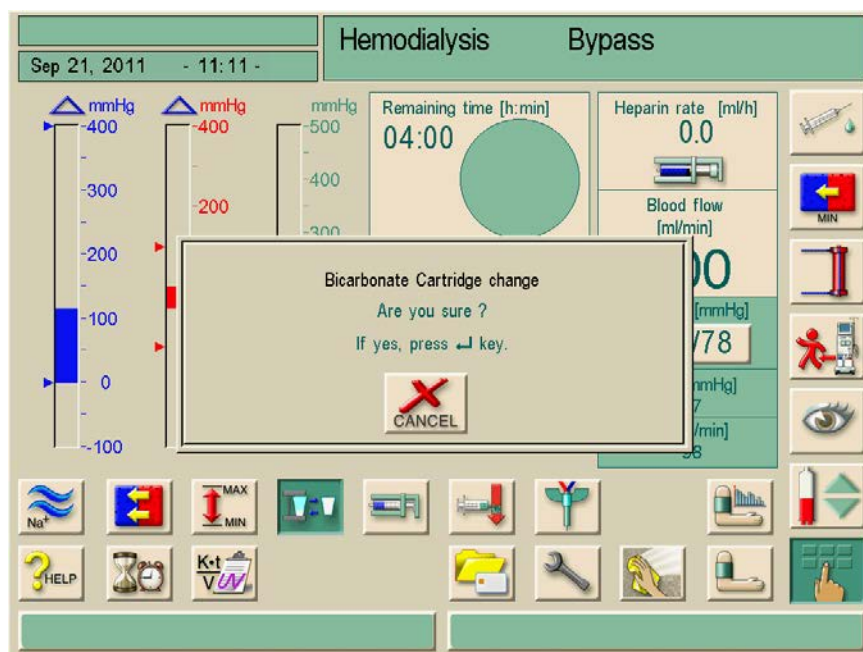

Fig. 10-25 Bicarbonate cartridge change
- Screen Disinfection selection is displayed, no disinfection program started (machine is in Rinse out, see figure 10-25)